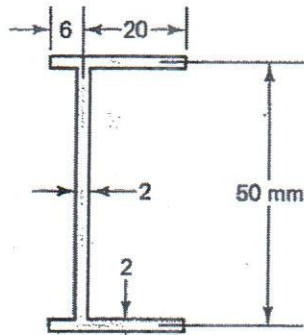

Fig. 14
8. (a) Determine the location of the shear center for the beam having the cross-sectional dimensions shown in Fig. 14. All members are to be considered thin-walled, and calculations should be based on the centerline dimensions. (10)